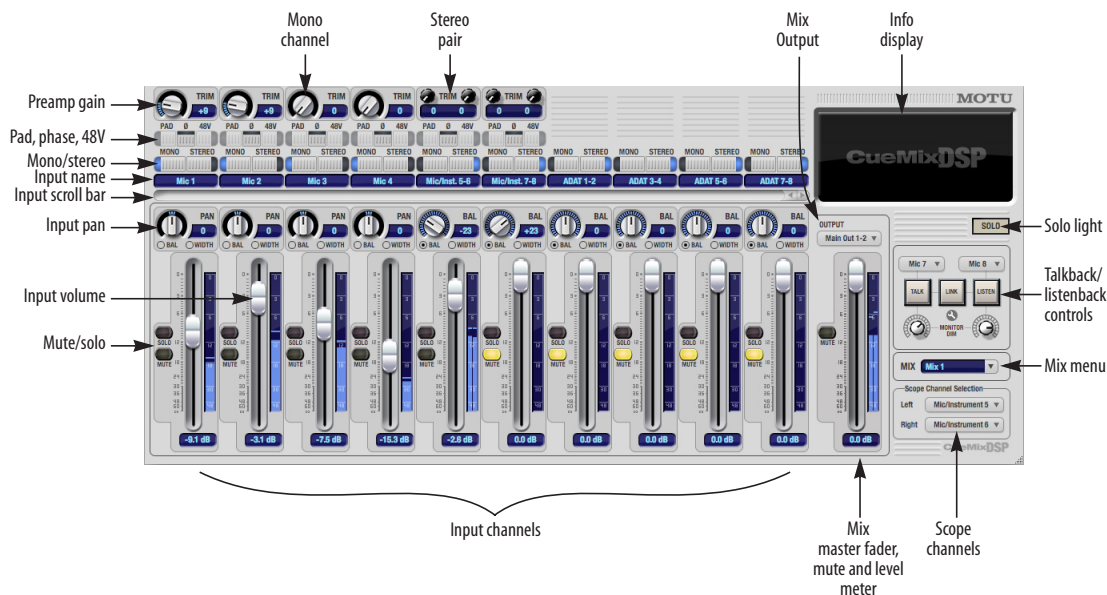

Figure 9-1: MOTU CueMix FX is a virtual mixer that gives you control over the 8pre USB's on-board mixing features.
CueMix FX displays one mix at a time. To select which mix you are viewing, choose it from the Mix menu, as shown in Figure 9-1. Double-click the name to change it.
To view a mix, choose it from the Mix menu, as shown in Figure 9-1. The menu shows all mixes by name, followed by the audio interface's output pair that it corresponds to.
The master fader (Figure 9-1) controls the overall level of the mix (its volume on its stereo output). Use the individual input faders to the left to control individual input levels.
The master mute button (next to the master fader) (Figure 9-1) temporarily disables (silences) the currently displayed mix.
Click the *Phase* button (Figure 9-1) to invert the phase of the input signal. For stereo pairs, you can invert the phase for the left and right channels independently: click the phase button (Ø) repeatedly to cycle among two states for mono channels (on or off) and four states for stereo grouped channels (no inversion, left only, both, or right only).
Click the *Mono* button (Figure 9-1) if you would like an input to be treated as a mono channel. If you would like to work with it as one channel of a linked stereo pair, click the *Stereo* button. Inputs are grouped in odd/even pairs (mic 1-2, Analog 1-2, 3-4, etc.) Stereo pairs appear as a single channel strip in the CueMix FX mixer.
The input pan knob (Figure 9-1) pans the input across the bus stereo outputs. All input pan settings belong to the mix currently being viewed.
Use the input fader (Figure 9-1) to adjust the input volume in the mix. Note that an input can have different level, pan, mute and solo settings for each mix. Input channel level meters are post-fader.
To add an input to a mix, or remove it, click its MUTE button. To solo it, use its SOLO button. The Solo light (Figure 9-1) illuminates when any input is soloed (including inputs that may currently be scrolled off-screen).
The *Scope channel selection* menus (Figure 9-1 on page 48) let you choose what input channels will be fed to the CueMix FX audio analysis (scoping) features. See “Devices menu” on page 52.
- 1 Select the source mix (Figure 9-1) and choose Copy from the Edit menu (or press control-C).
The *Scope channel selection* menus (Figure 9-1 on page 48) let you choose what input channels will be fed to the CueMix FX audio analysis (scoping) features described in the following sections.